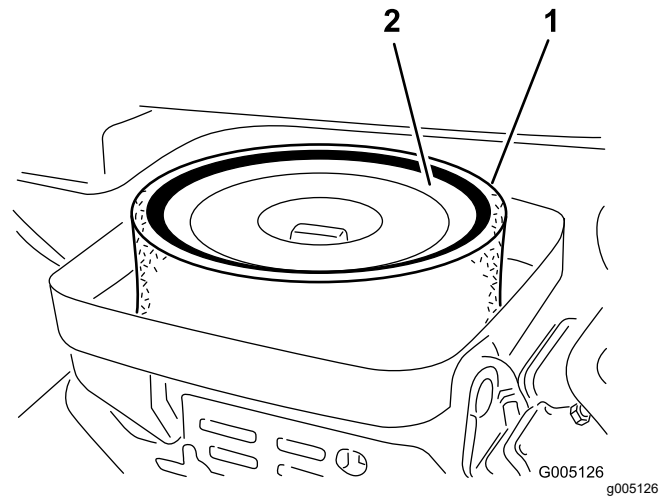

Figure 29
3. Remove the wing nut securing the elements to the air-cleaner body (Figure 29).
4. If the foam element is dirty, remove it from the paper element (Figure 29). Clean it thoroughly, as follows: